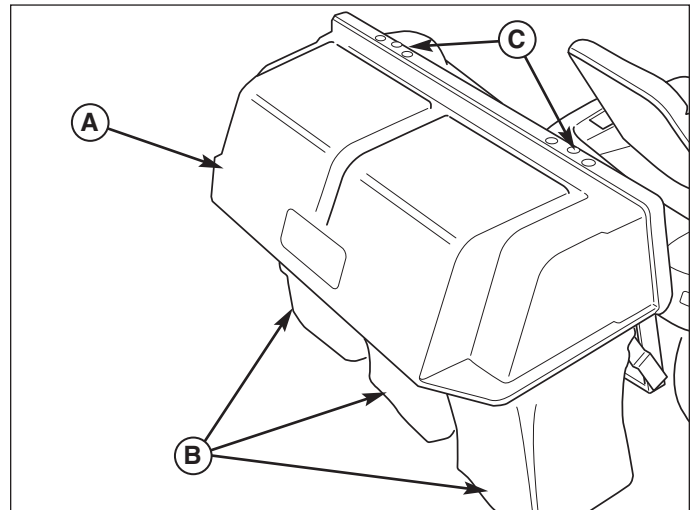

Figure 3. Install Cover
2. See Figure 3. Set the cover (A) on top of the bags (B) and align the hinges (C).